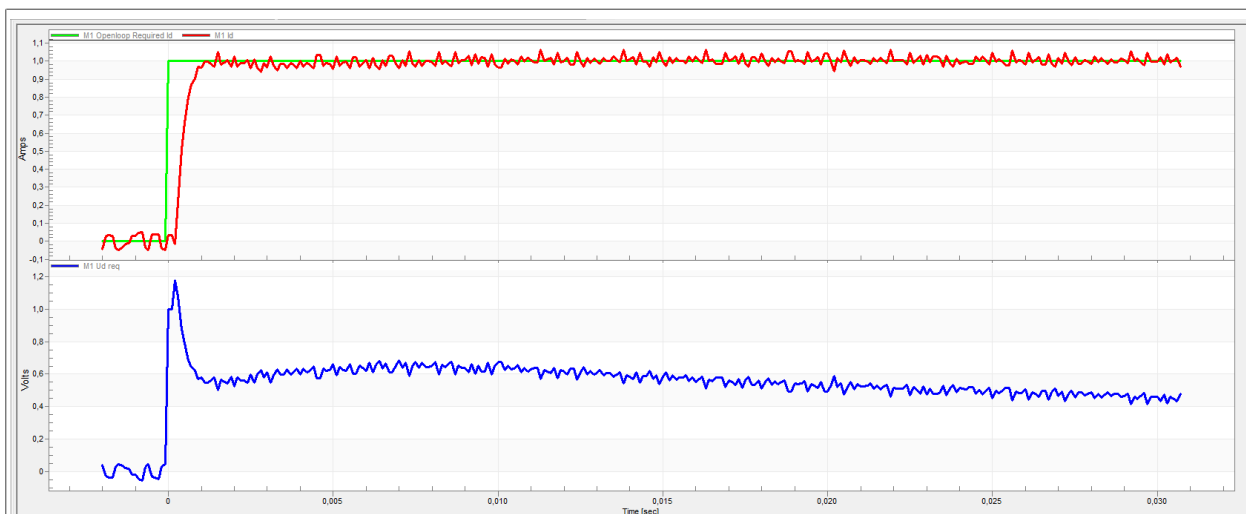

Figure 35. Optimal step response of the Id current controller
- The loop bandwidth (300 Hz) is optimal and the response time of the Id current is sufficient (Figure 35).